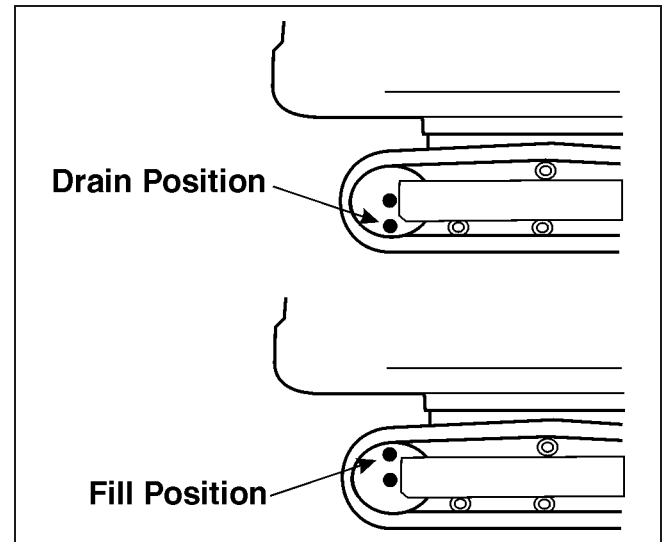

Figure 4-19 Track Final Drive Oil Change
1. Position the machine on a level surface with final drive plugs positioned as shown in “Drain Position,” Figure 4-19. Turn off the engine.
3. Start the engine and move the machine slightly until plugs are positioned as shown in “Fill Position,” Figure 4-19.